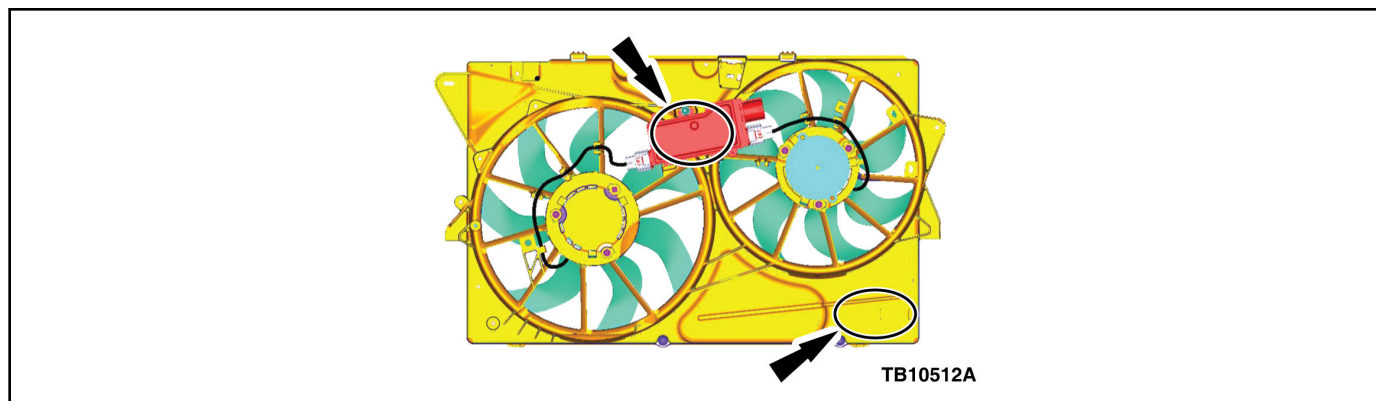

Figure 1 - Article 14-0019
- a. No – please be sure to check the fan assembly for being original equipment manufacturer (OEM). (Figure 1)